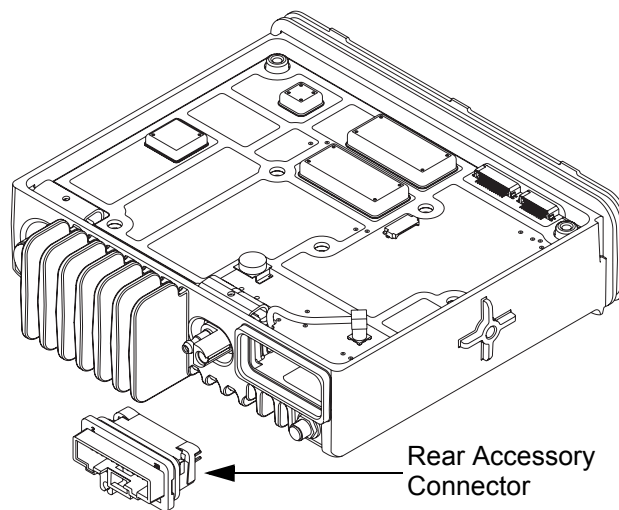

Figure 5-52 Inserting Rear Accessory Connector
3. Insert the rear accessory connector into the radio assembly and press into place until the connector is flushed with the chassis. Refer to Figure 5-52.